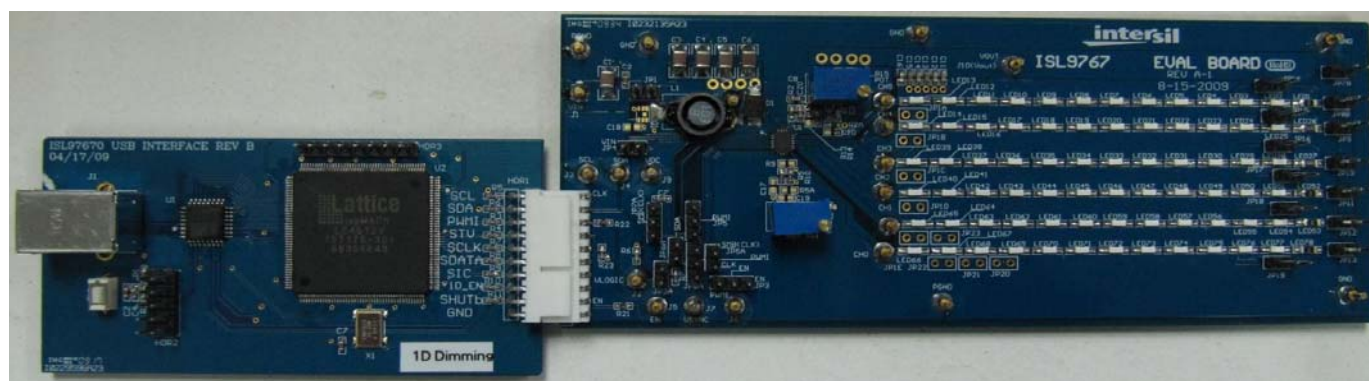

FIGURE 3. I2C INTERFACE BOARD CONNECTED TO ISL97673IRZ-EVAL EVALUATION BOARD
4. Connect the I2C interface board to the ISL97673/4IRZ-EVAL Evaluation Board, as shown in Figure 3.